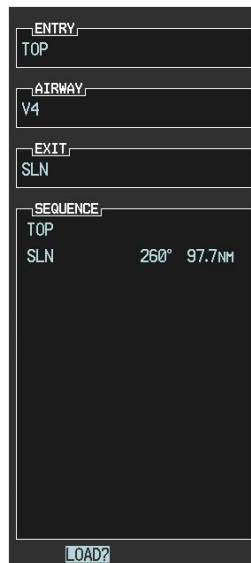

Figure 5-98 Ready to Load V4
- j) Press the **ENT** Key. The selected airway and exit are displayed the prompt "LOAD?" highlighted as in Figure 5-98.